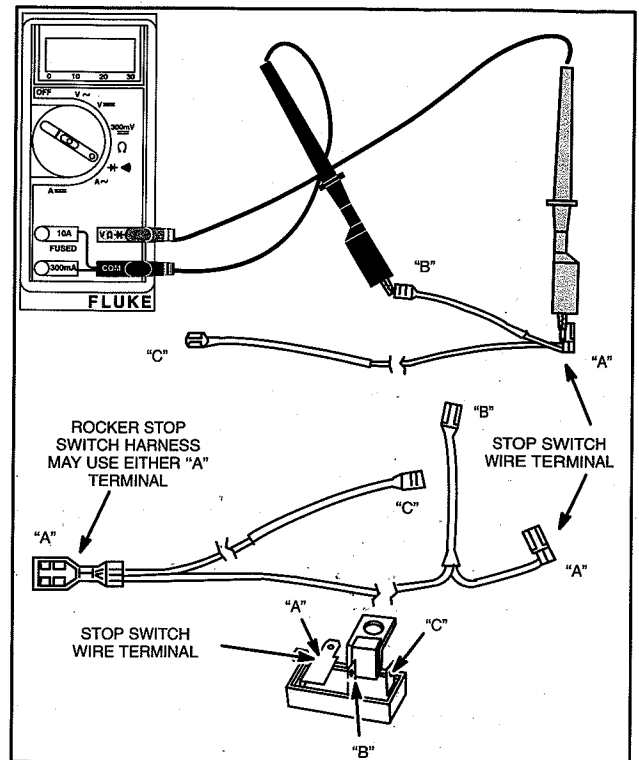

Fig. 15 – Testing Ground Wire Harness And Stop Terminal
4. Attach RED test lead clip to terminal "A" (stop switch wire terminal), Fig. 15, current style or early style. Leave attached for remainder of test.